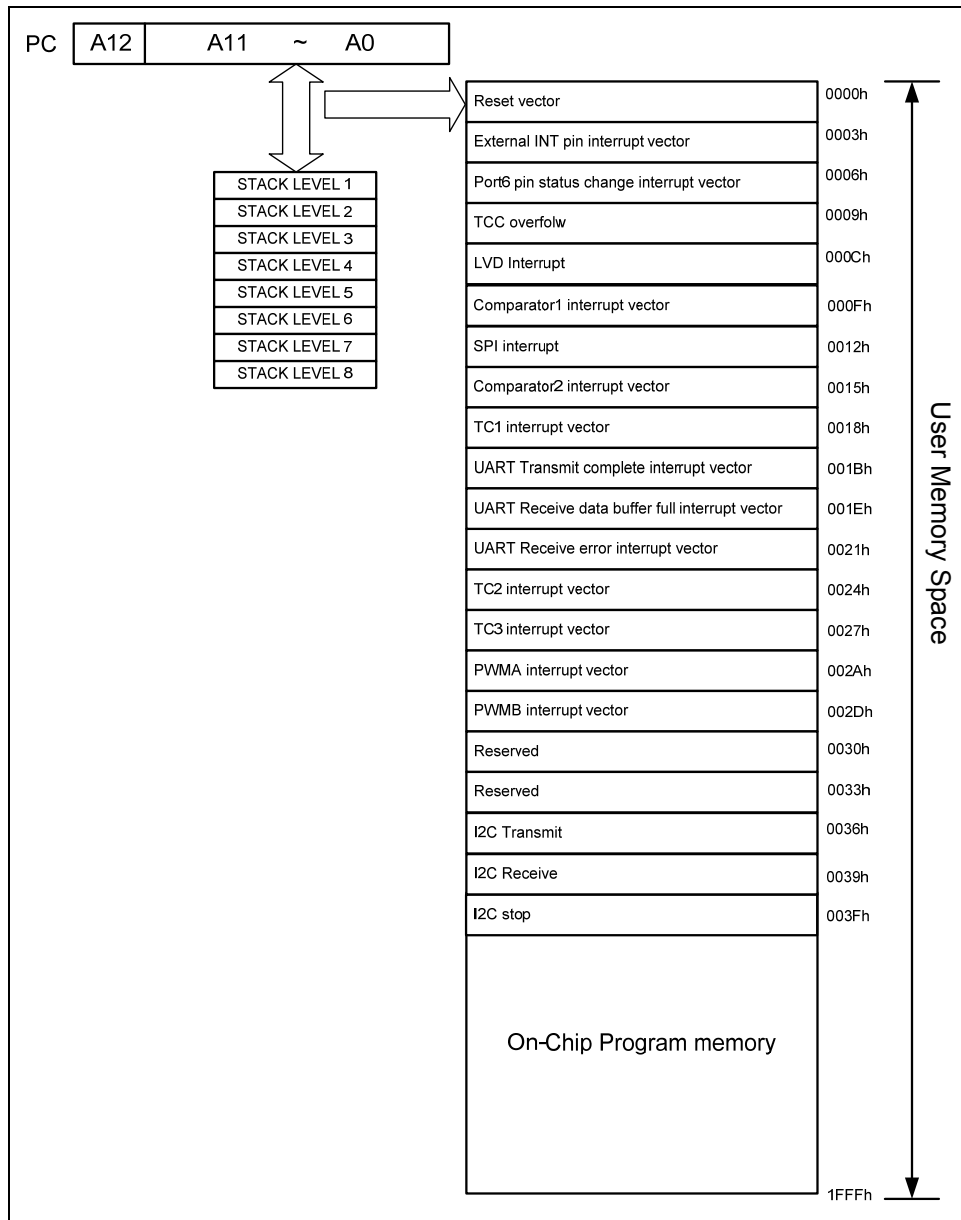

Figure 6-6 Program Counter Structure
- Depending on the device type, R2 and hardware stack are 12-bits wide. The program counter structure is depicted in Figure 6-6 below.
- "LJMP" instruction allows direct loading of the lower 13 program counter bits. Therefore, "LJMP" allows PC to jump to any location within 8K (213).
- "LCALL" instruction loads the lower 13 bits of the PC, and then PC+1 is pushed into the stack. Thus, the subroutine entry address can be located anywhere within 8K (213).